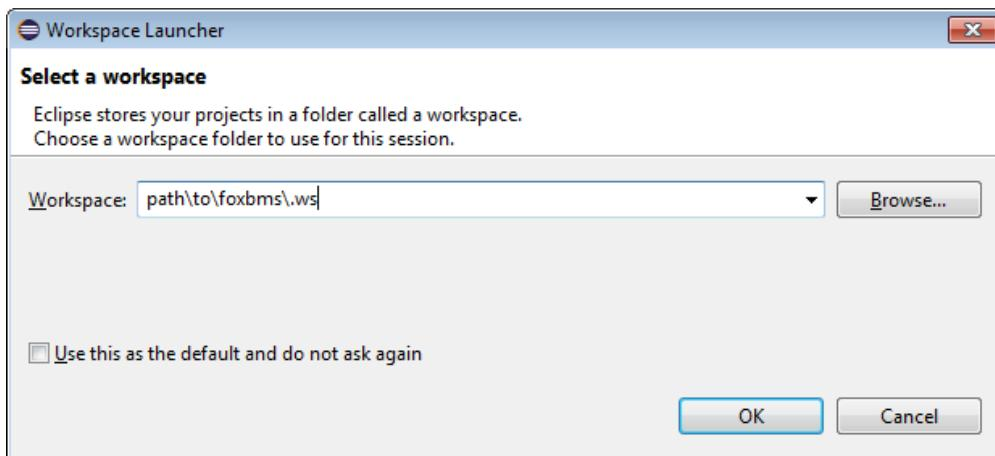

Fig. 11.4: Selecting the correct workspace location
1. Start Eclipse and click **File -> Switch Workspace -> other** and configure path `\to\foxbms\.ws` as workspace, see Fig. 11.4.